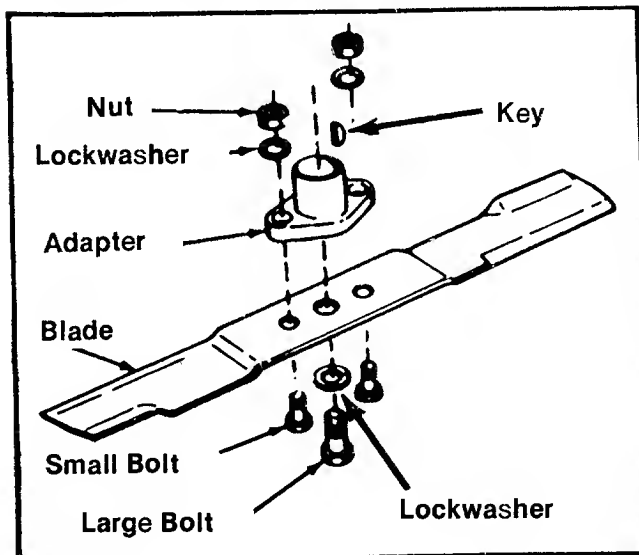

Figure 13.
1. Remove the large bolt and lockwasher holding the blade and adapter to the engine blade spindle. (See figure 13.)